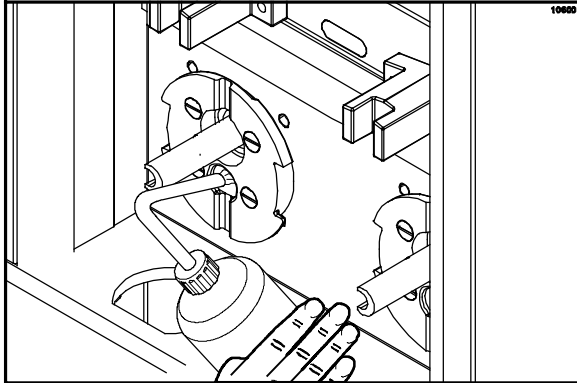

Figure 47
25. Fill the squeeze bottle with sanitizing solution. Place a 12 oz. cup under each dispensing pump head. Insert the tube end of the squeeze bottle into the pump housing. Squeeze the bottle firmly to force solution out of the port. Perform this procedure at least 15 seconds for each pump housing. (See Figure 47.)